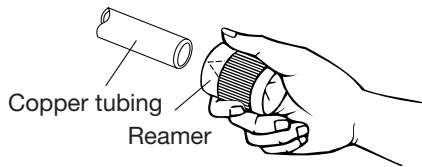
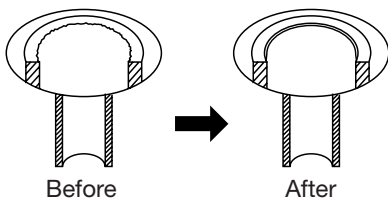

Figure 2
Figure 3
2. Hold each tube downward when cutting, remove burrs at the end of the copper tube with a tube reamer or file. This process is important and should be done carefully to make a good flare (Figure 2 and Figure 3).
2. After cutting, remove burrs at the end of copper tube with a tube reamer. Hold the end downward and be sure that no copper scraps fall into the tube (Figure 2).